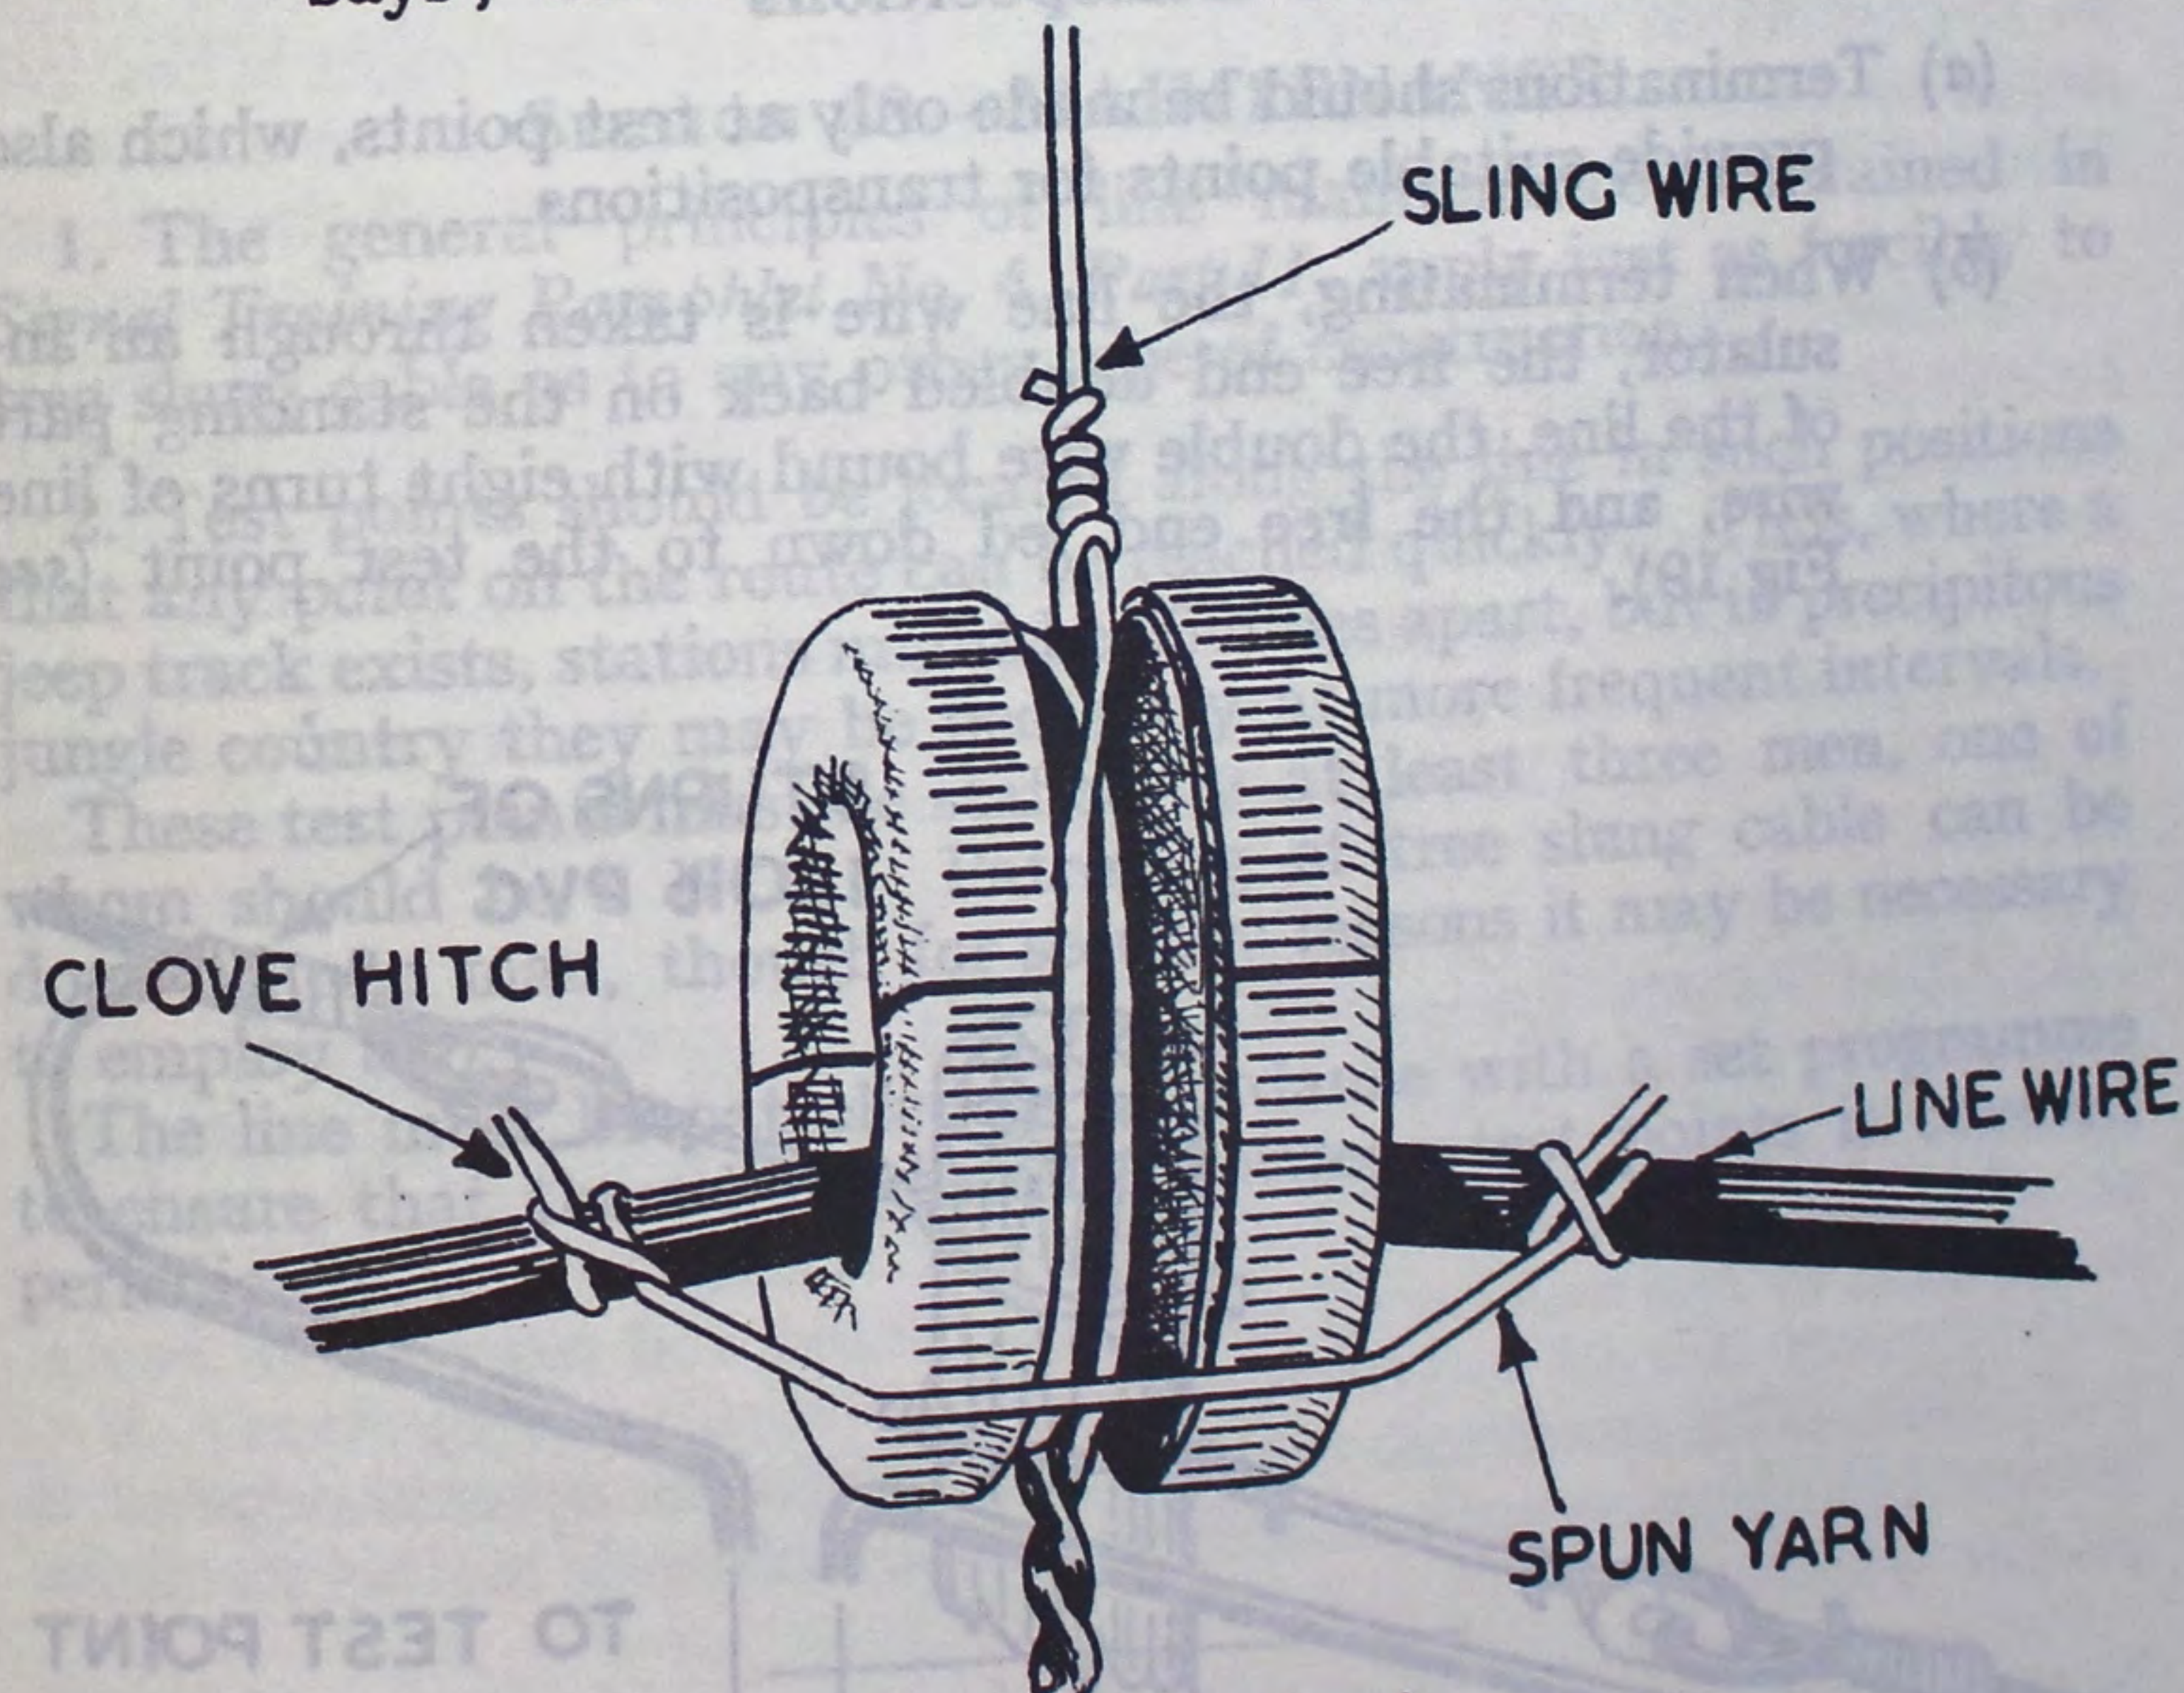

Fig 18.—Binding-in
- (a) On fairly level ground the weight of the wires is sufficient to hold them in position once they are regulated, and they should be bound-in only at the end of eight to ten bays; the method of binding-in is shown in Fig 18.